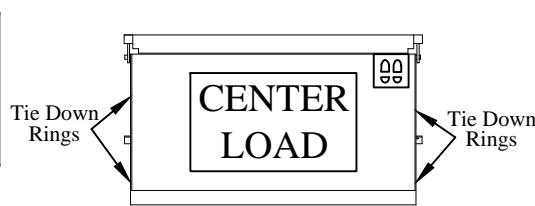

Figure 7: Step 10.
- Step 10. To load and use the railgate, center the load on the platform side to side and front to back (Figure 7). Put heavier loads as close to the front of the platform as possible (near truck). Platform cart stops may be actuated at this time, if equipped. Tie down rings are provided to help secure the load.